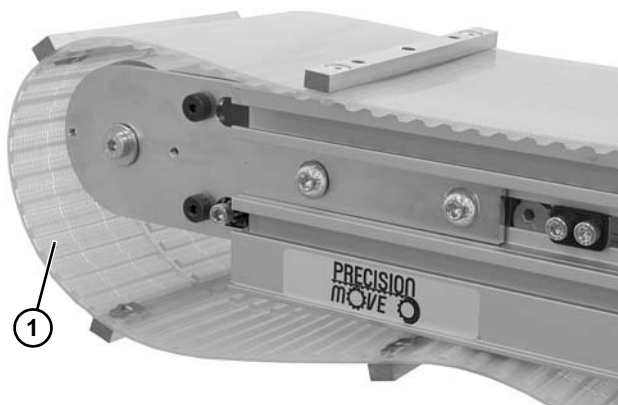

Figure 27
13. Slide belt (**Figure 27, item 1**) from conveyor from opposite side of gearmotor.